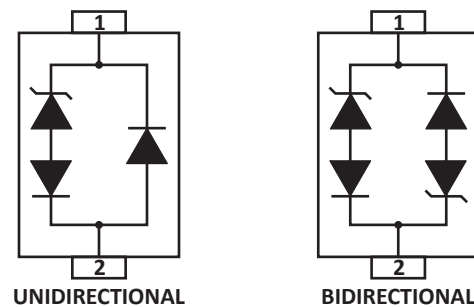

Figure 6. TVS Diode Array - GBLC Series
a) those that attenuate transients, thus preventing their propagation into a sensitive circuit - Standard TVS Arrays as shown in Figure 6.